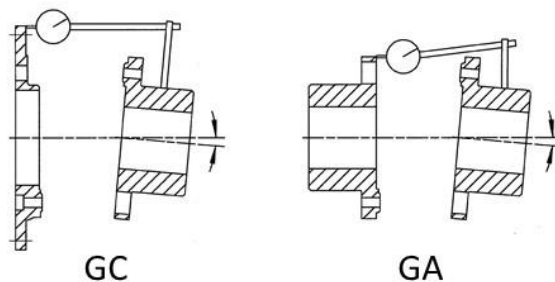

Figure 5: Angular Misalignment
- Figure 5. Rotate both shafts together making sure the shaft axial spacing remains constant. On GC adjust the equipment by shimming and/or moving so that the indicator reading is within .002 inch per inch of coupling flange diameter. On GA see Table 2.